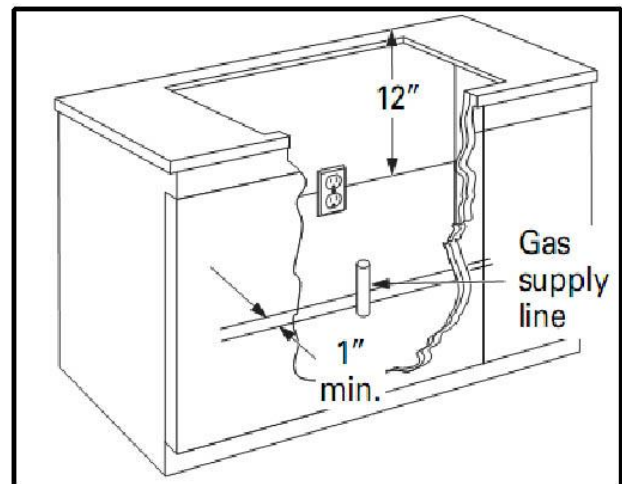

Figure 7
• Gas supply should be located near the opening for this cooktop and be a minimum of 1" from the back wall (see Figure 7). This cooktop is set for natural gas and is designed to operate at 5" water column pressure. The regulator is required to provide a minimum of 6" water column to a maximum of 14" water column to the cooktop regulator.